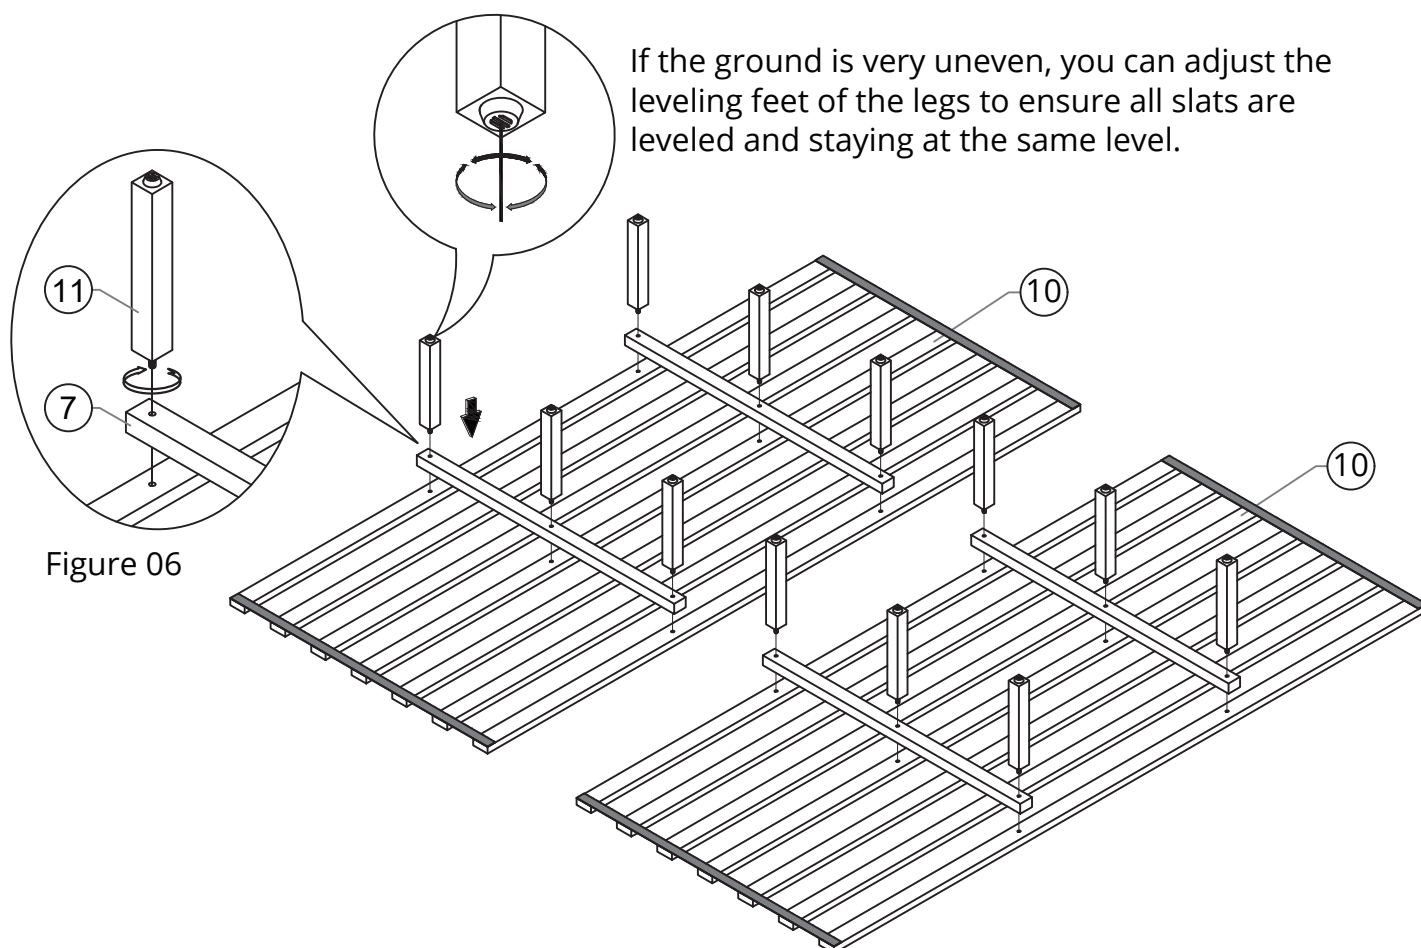

Figure 06
Step6: Install the slats support bar (7) to the slats (10) by tightening the slat supporting legs (11). See Figure 06.